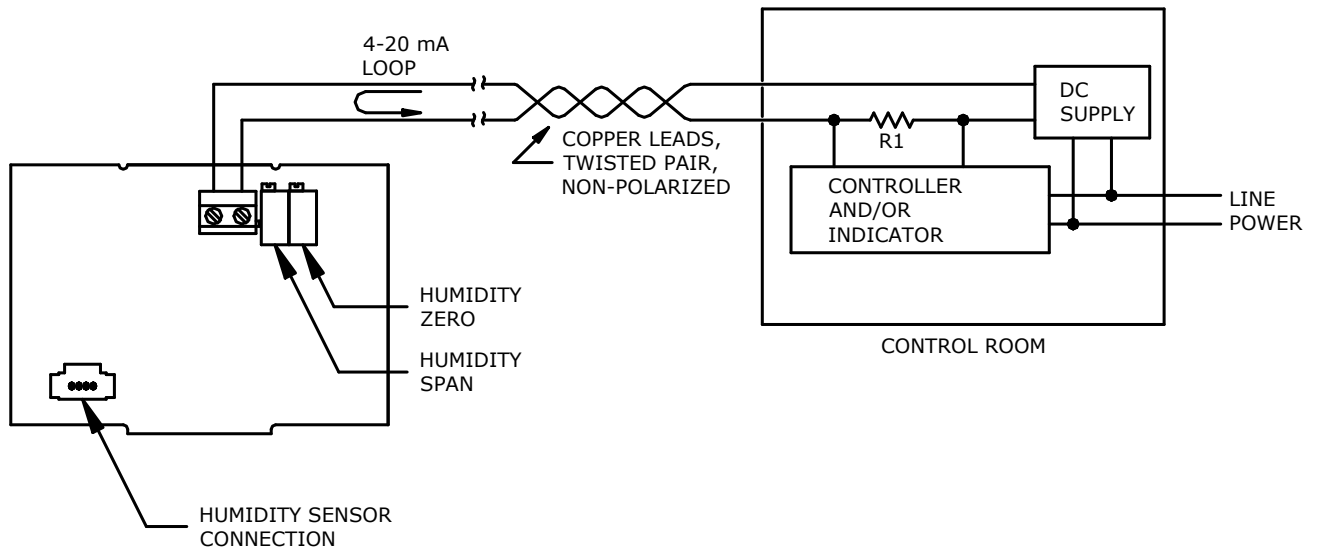

Figure 2
4. Remove transmitter cover and connect power wires to the transmitter by 2 screw terminals located near the edge of the circuit board (Figures 2 and 4). Power supply must not exceed 35 VDC.